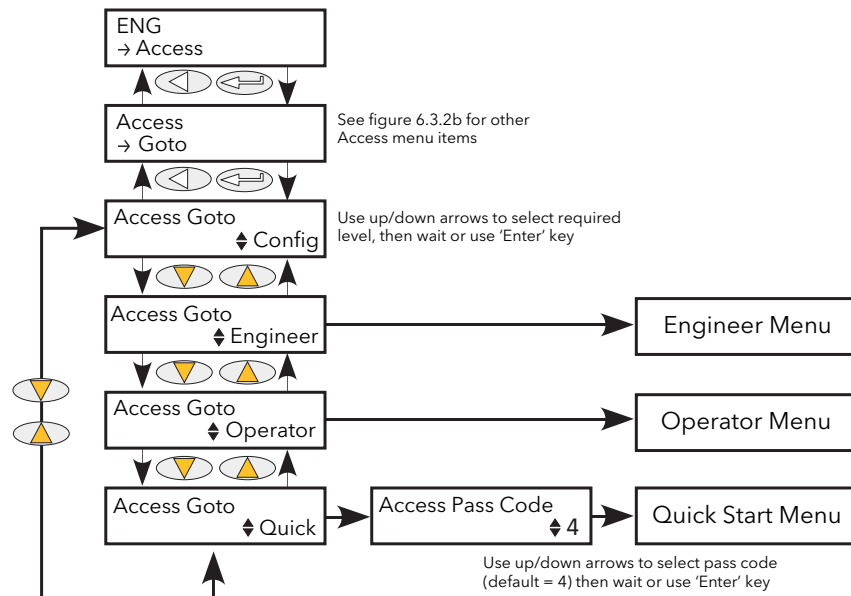

Figure 6.3.2a GoTo menu
1. The user to quit the Configuration level menu and 'Goto' a different access level. Operator and Engineer level menus require no Pass code as they are considered to be at a lower security level than Configuration. (Figure 6.3.2a shows the menu layout.)